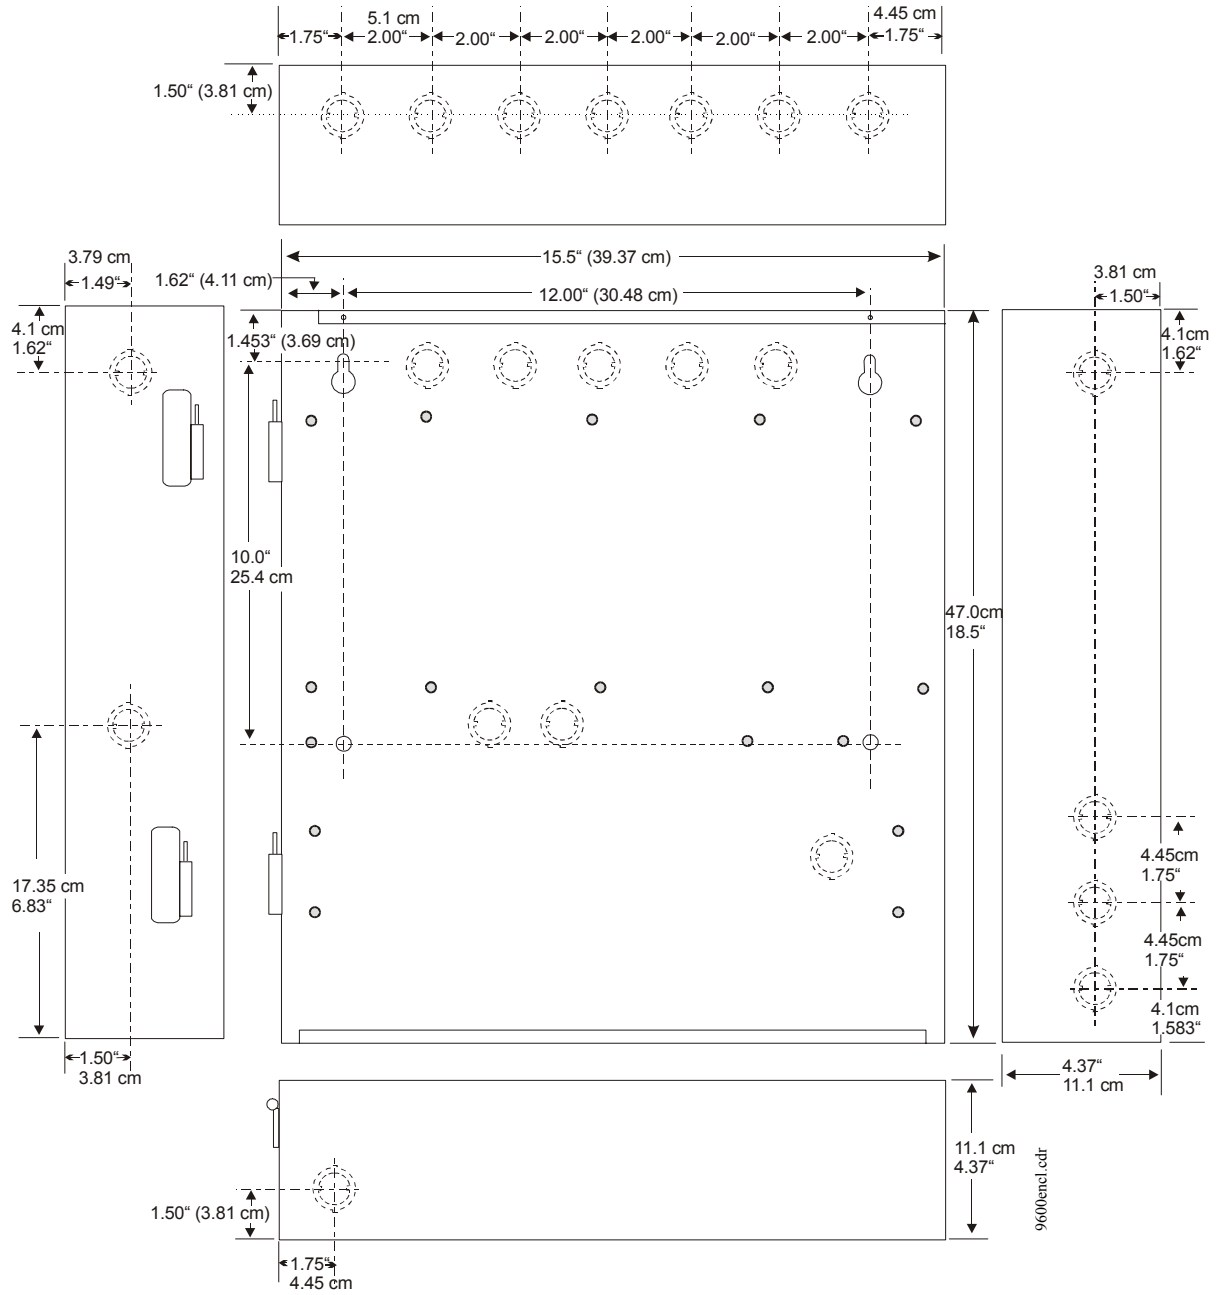

Figure 2.2 MS-9600 Cabinet Mounting
- ✓ Mark and predrill holes in the wall for the top two keyhole mounting bolts using the dimensions illustrated in Figure 2.2 on page 25